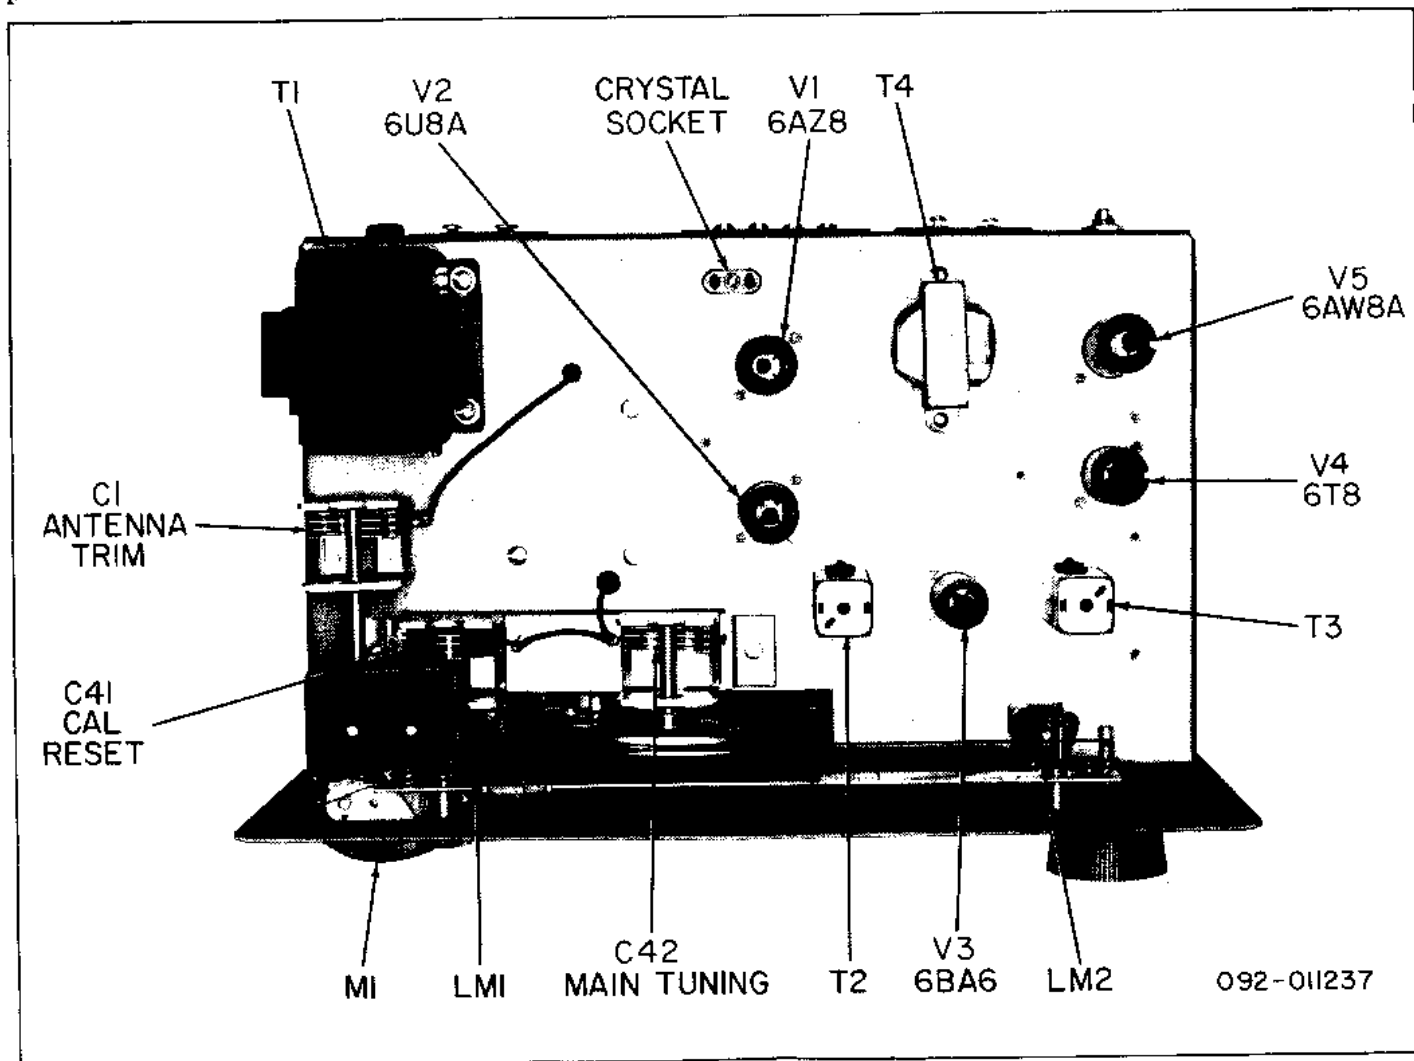

Figure 8. Top View Alignments.
A special crystal oscillator circuit (with crystal) has been incorporated into the receiver to enable the operator to accurately calibrate each band. A 3.5-MC crystal inserted into the crystal socket (see fig. 8) provides a signal that will zero-beat with the local oscillator to provide a calibration marker at the low frequency edge of the 80, 40, 20, 15 and 10 meter bands and at 52.5 MC on the 6 meter band. For calibration of the receiver preset the controls as indicated:
To gain access to the tubes and dial lamps, remove the chassis from the cabinet (see para. 6-2). The location of the tubes and dial lamps are shown in figure 8.
2. Insert 1650-KC crystal in crystal socket (see fig. 8).